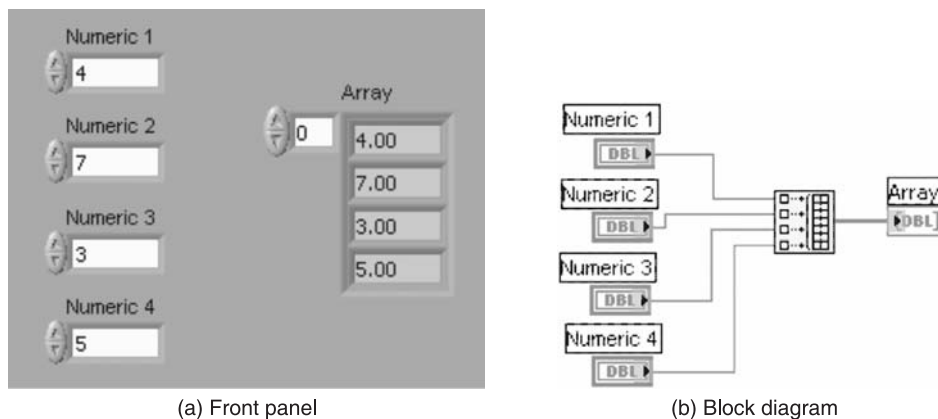

Figure P5.1
**Solution** The front panel and the block diagram to create a one-dimensional (1D) numeric array are shown in Figures P5.1(a) and P5.1(b).